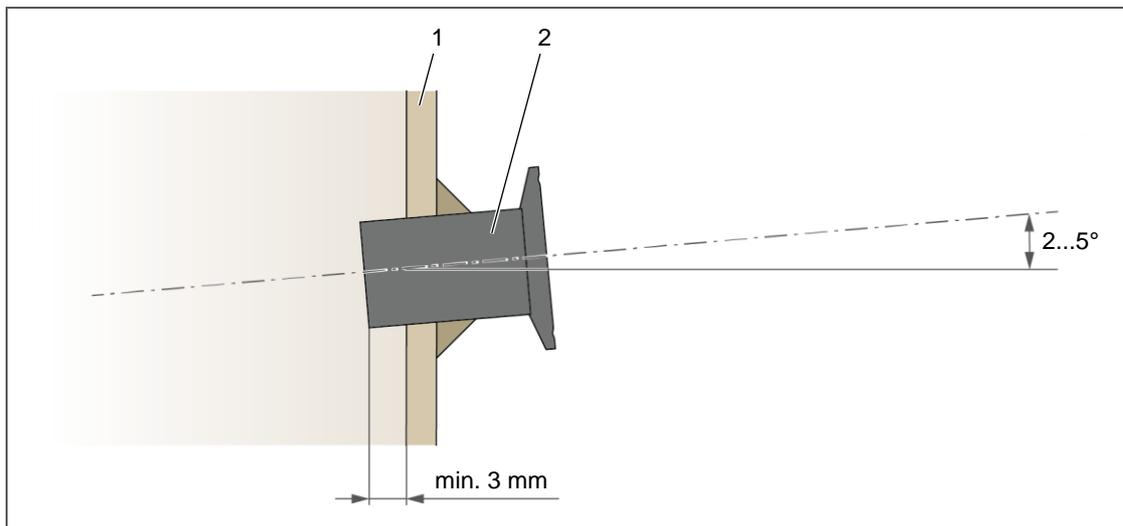

Fig. 8: Mounting of welding sleeve (side view)
The device can be mounted in horizontal and vertical duct. Thereby the mounting direction of the device itself can be from side to vertical from above. At mounting of the welding sleeve from side the correct installation angle has to be observed (see Fig. 8).
2. Mount the welding sleeve (2, Fig. 8) at the provided aperture in the duct wall (1).